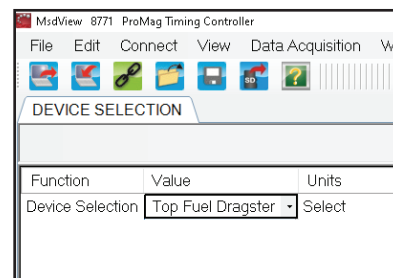

Figure 1 Product Selection.
**IMPORTANT:** There is one important step that occurs when the software and unit are initially connected together. During the initial connection select either **Funny Car OR Dragster. (Figure 1)**